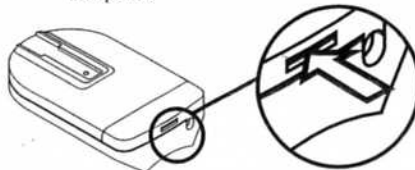

Fig. 2
Step 5-1 Turn Transmitter upside down **Fig. 2**.
- Gently push straight IN on Tab as shown **Fig. 2**.